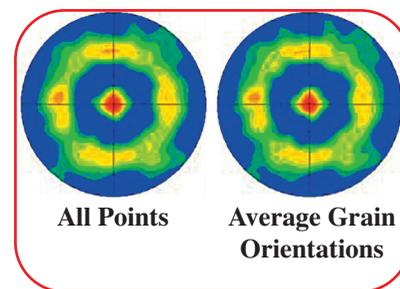

Figure 2. The results for a small study on a sample with moderate (110) fiber texture.
How good is this approximation? Figure 2 shows the results for a small study on a sample with a moderate (110) fiber texture. Clearly the match between the textures calculated using all of the points as opposed to those based on the average grain orientations is excellent.